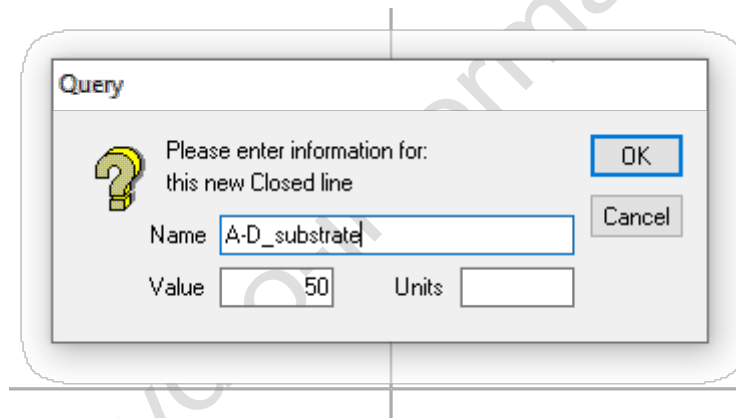

Figure 11: Assign the roughness value (here: a Strickler roughness of 50) to the area.
2. Once drawing is finished, press the Esc button and the window shown in Figure 11 will appear, where a roughness value can be assigned.